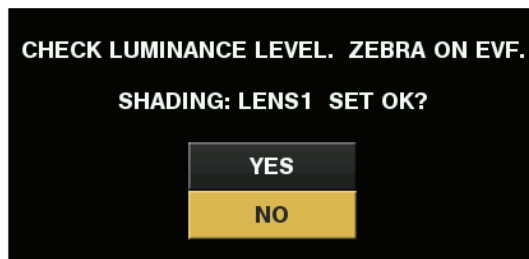

Fig. 1
- The [CHECK LUMINANCE LEVEL. ZEBRA ON EVF.] message is displayed on the screen. (Fig. 1)